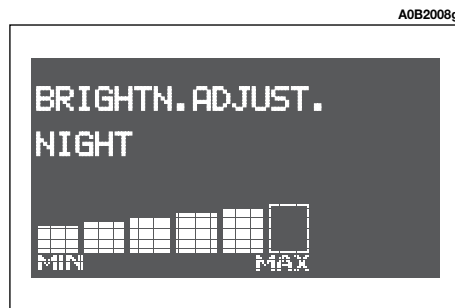

fig. 79
- if the outside lights are on, the message BRIGHTN. ADJUST. NIGHT will appear on the display (fig. 79)